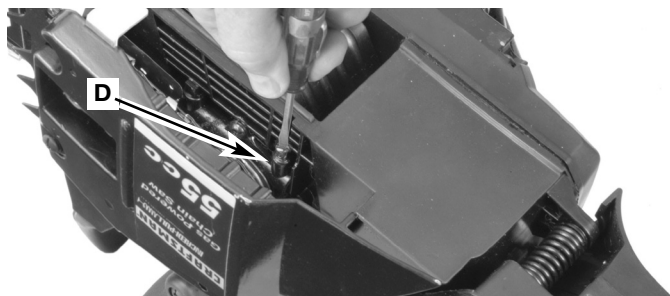

Fig. 11
Your chain saw is equipped with an automatic gear driven oiler system. The oiler automatically delivers the proper amount of oil to the bar and chain. As the engine speed increases, so does the oil flow to the bar pad. The amount of oil flowing to the bar and chain may be changed by turning the adjustment screw (D) with a small slotted screwdriver as shown in Fig. 11. Turn the screw clockwise to DECREASE oil flow and counterclockwise to INCREASE the flow.